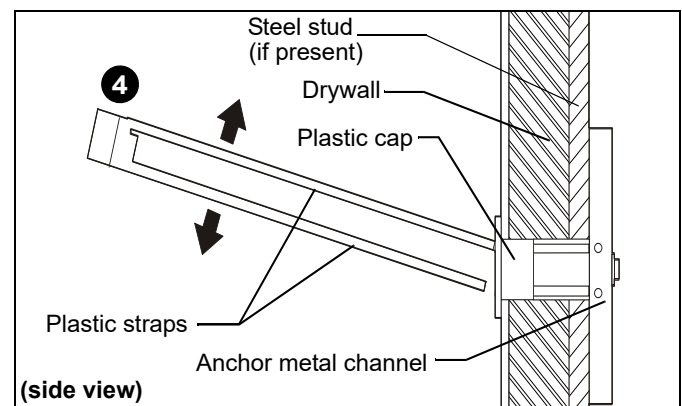

Figure 22
4. Snap off plastic straps on anchor at wall by pushing side to side, snapping off straps level with flange of plastic cap. (See Figure 22)